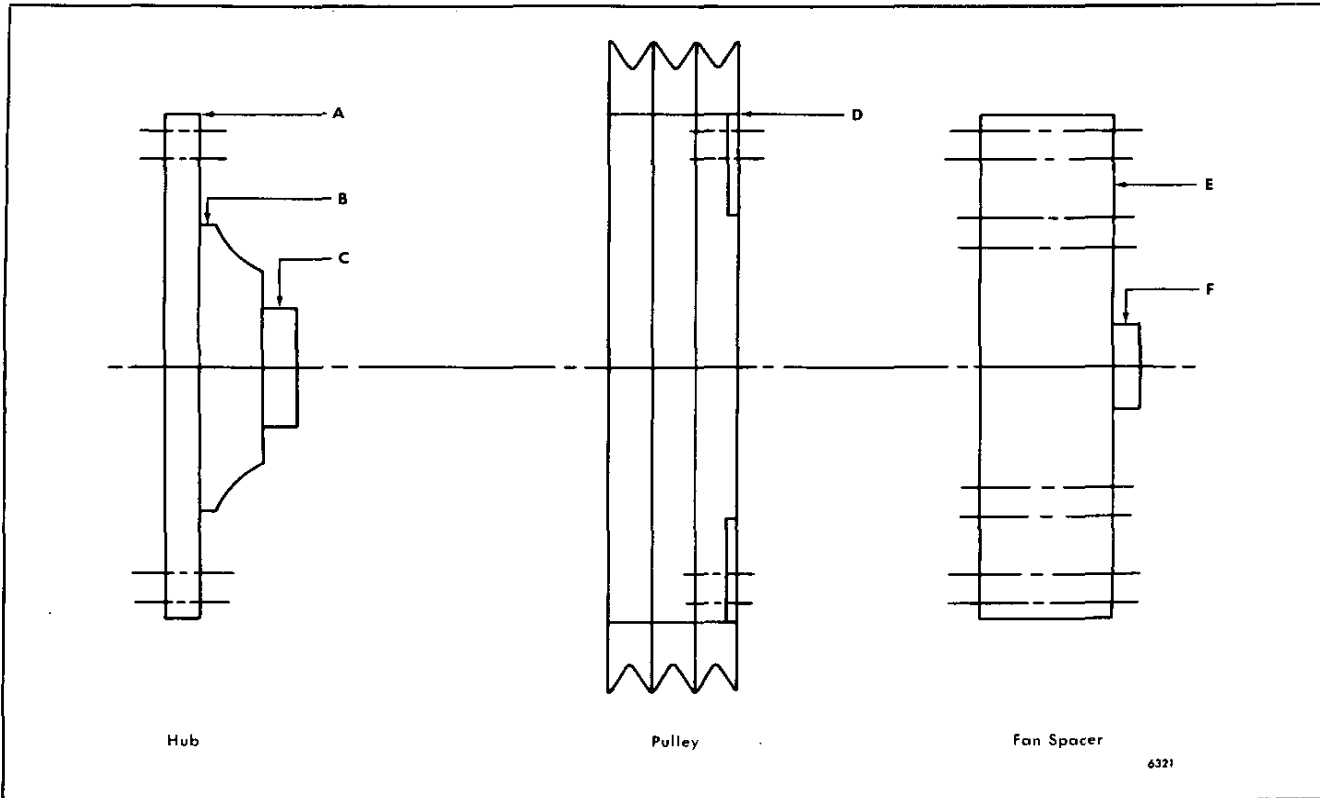

Fig. 9 - Water Pump Pulley Hub, Pulley and Fan Spacer Measurement Locations
3. Prior to installing the seals, several water pump pulley hub measurements are required with a magnetic base dial indicator (J 7872). These measurements are not required on the marine low mount water pump pulley hubs. Refer to Fig. 9 for water pump pulley hub total indicator runout (T.I.R.) measurement locations.
imperfections. Refer to Fig. 9 for total indicator runout (T.I.R.) measurement locations.